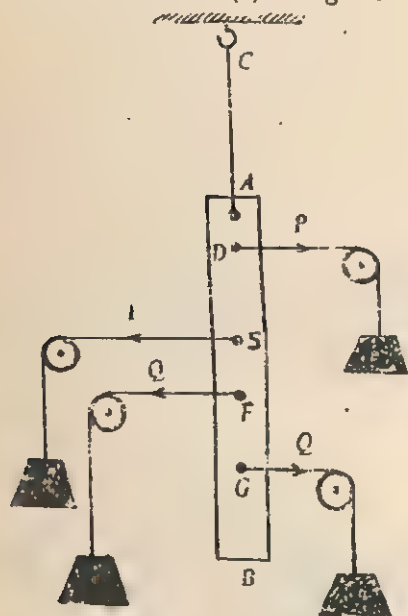

Fig. 3.1. Couples due to forces  $PP$  and  $QQ$  are clockwise and anti-clockwise directions respectively.
**Procedure.** (1) Hang the rod  $AB$  vertically by the string attached at  $A$ , the other end of the string being attached to a fixed support  $C$  as shown in Fig. 3.1.